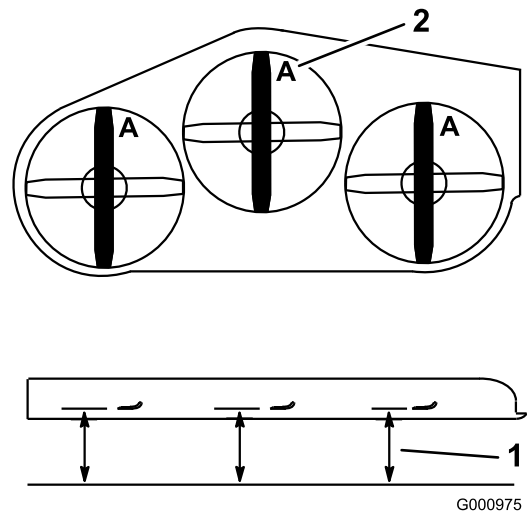

Figure 105
2. Measure from a level surface to the cutting edge, position **A**, of the blades (Figure 105).